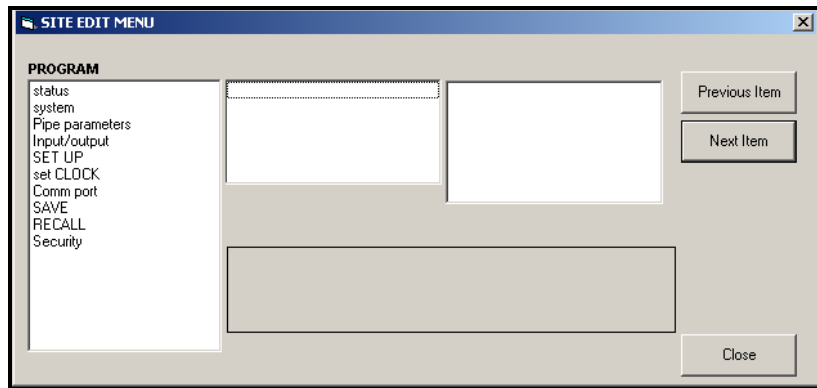

Figure C-20: The *Site Edit Menu* Window
- To open a particular menu, double-click on that menu on the tree. For example, if you double-click on the Site Edit Menu, a window opens similar to Figure C-20 below.